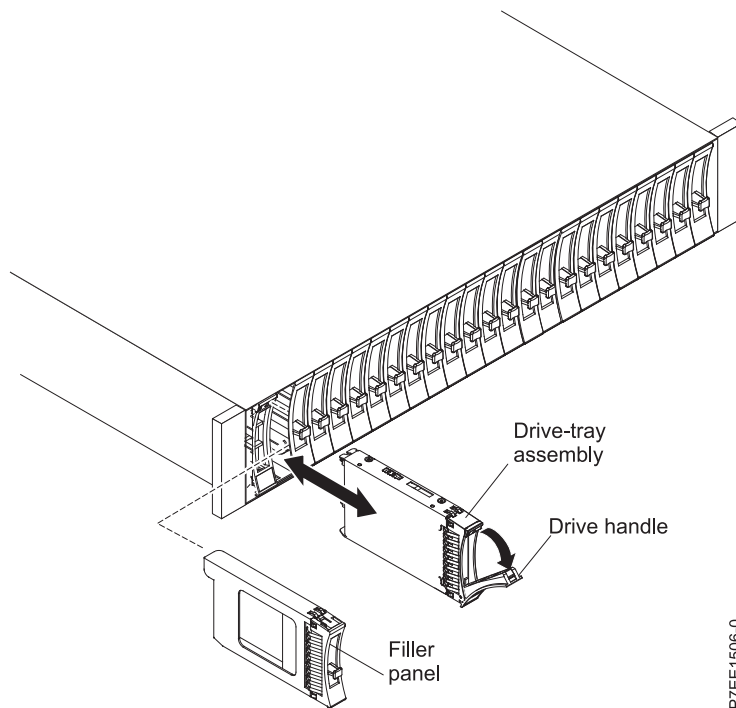

Figure 29. Removing a drive from the 5887 disk drive enclosure
4. Grasp the front of the drive and pull it out from the slot, ensuring that you support the bottom of the drive, as shown in Figure 29.